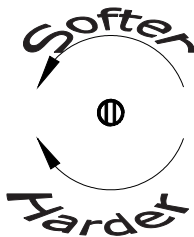

Fig. 29
3. Locate the three LED's - green, yellow, and red - Fig. 29. These are used as a reference point to adjust for proper consistency. Initially, all of the LED's are off. This indicates that the mix is too thin. The compressor will now come on. As the product thickens, the green, then the yellow, then the red LED illuminate. Two seconds after the red LED is illuminated, the compressor and dasher will shut off.
4. Turn the HARDNESS potentiometer (Fig. 29) clockwise to make the product harder or counterclockwise to make the product softer. **Note: The potentiometer is very sensitive. Adjust in small increments.**